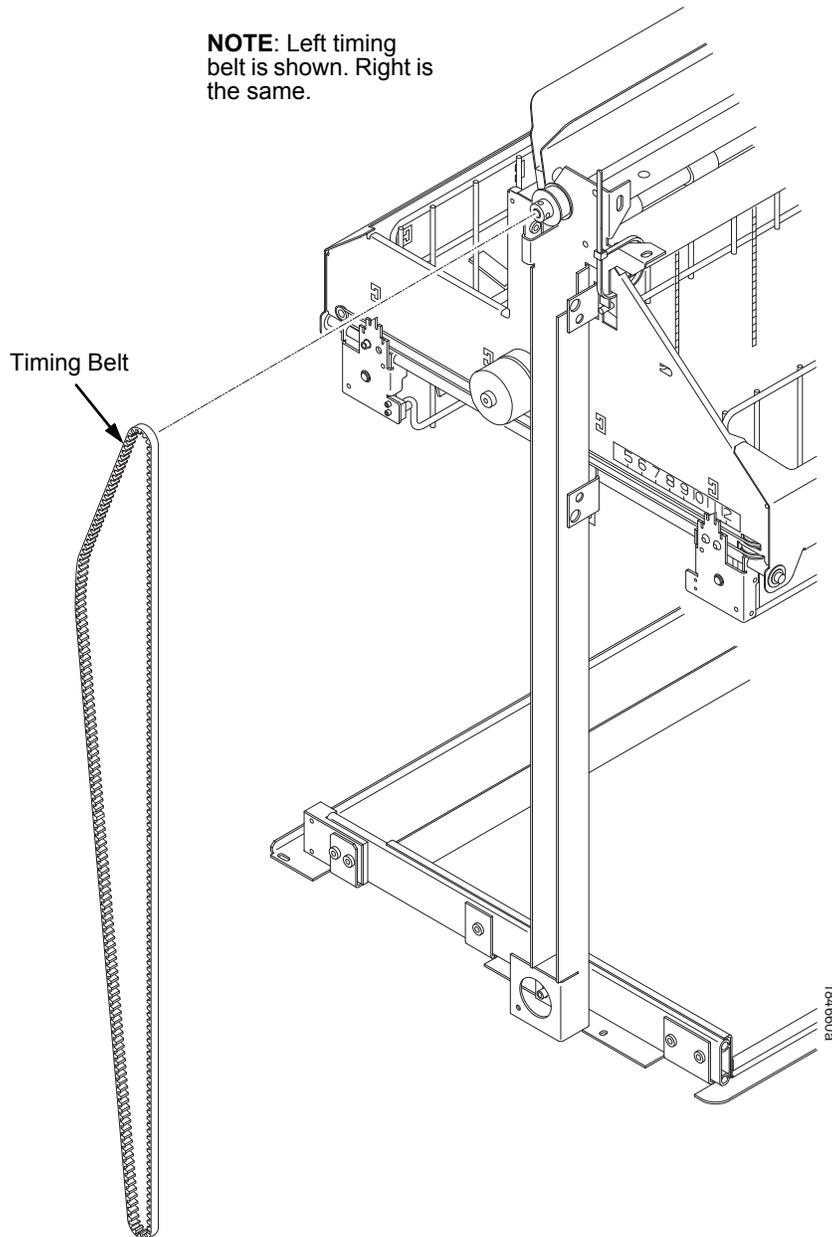

Figure 32. Removing the Timing Belt
8. Remove the timing belt by working it around the vertical rail and constant force spring. (Figure 32.)